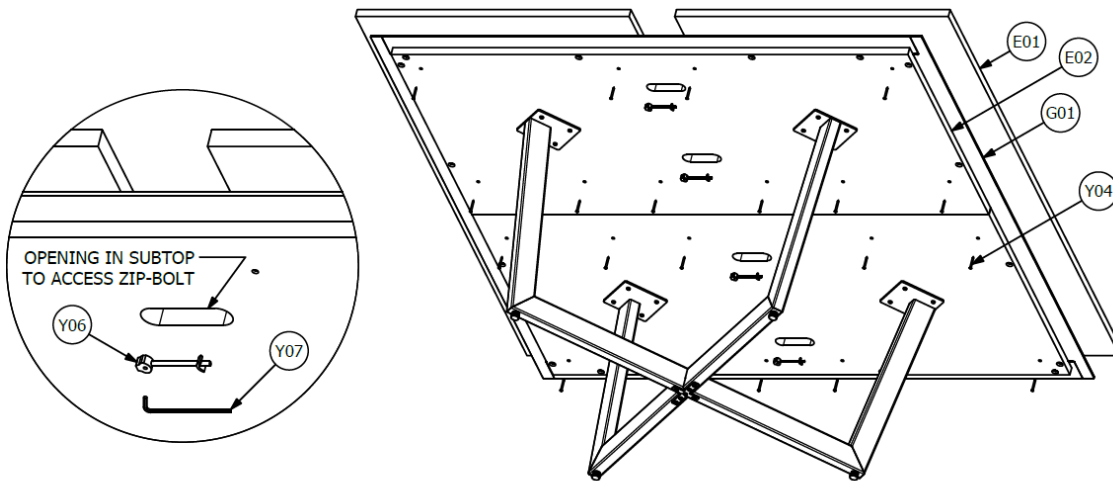

FIGURE 08: 2-PIECE WOOD TOP ASSEMBLY
1. Place ALL Top (E01) sections on Subtop (E02). See Figure 08.
2. Using Zip-bolt (Y06) connect the Top sections to each other thru the openings in the Subtop. See Figure 08.
3. If equipped with Edge Trim (G01), position the Top Assembly so that an equal amount (1/4") of Edge Trim shows. If not equipped with Edge Trim, center Top on Subtop. See Figure 08.
4. Once Top is positioned, use Fastener (Y04) to secure them. See Figure 08.